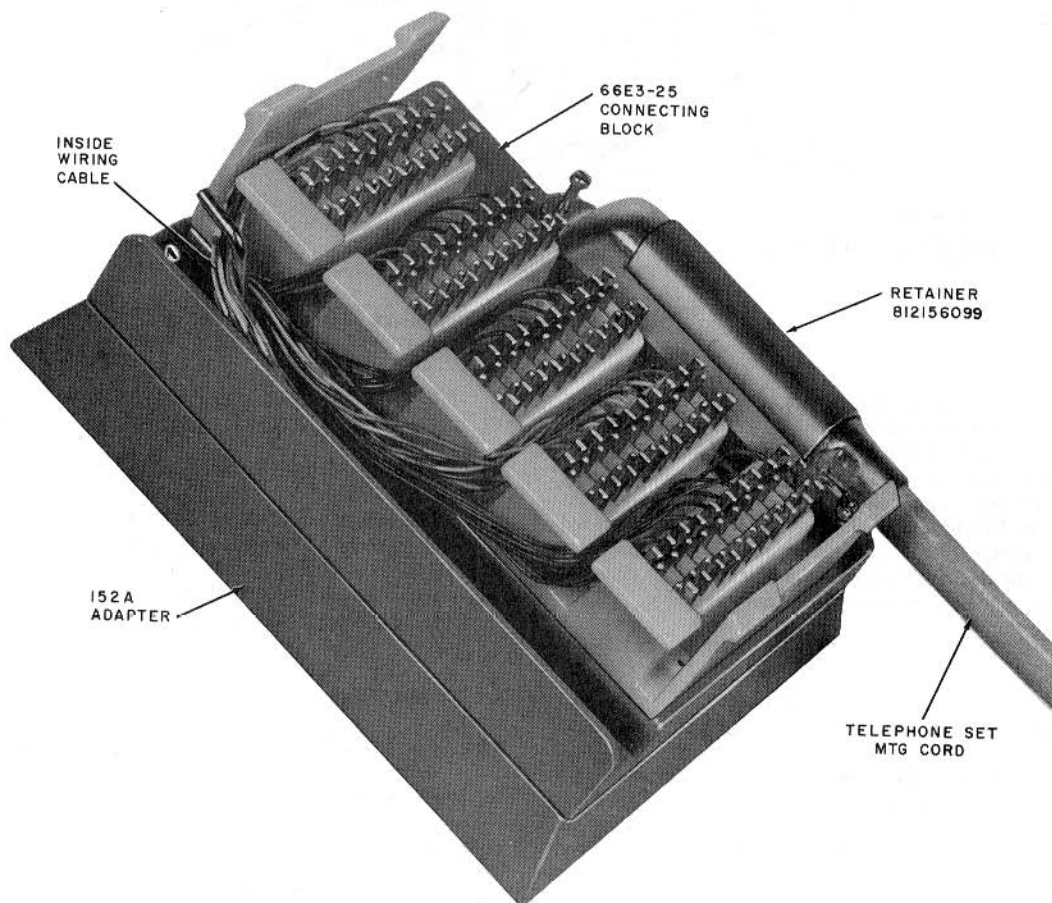
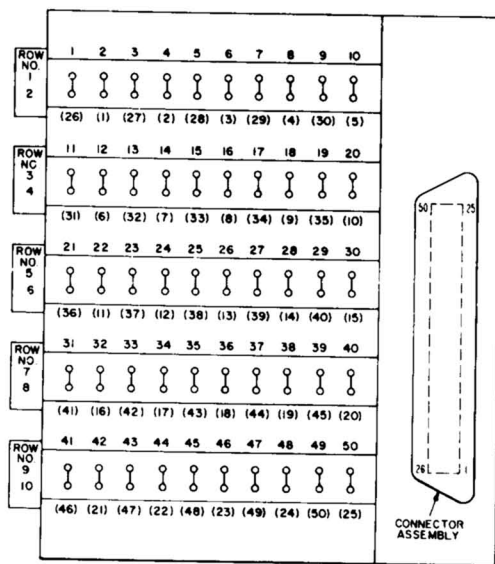

Fig. 4—66E3-25 Connecting Block Installed on 152A Mounting Adapter
Fig. 6—Numbering and Wiring Plan for 66E3-25 and 66E4-25 Connecting Block
**3.02** Install the 152A adapter on electrical outlet box or overfloor duct and mount the 66E3-25 connecting block to the adapter, using the mounting hardware provided (Fig. 4). Terminate the cable conductors ♦on the connecting block pins (Fig. 6),
♦Terminate the cable conductors on the connecting block pins (Fig. 6), connect station telephone set to connector assembly, and install commercial service fitting.♦